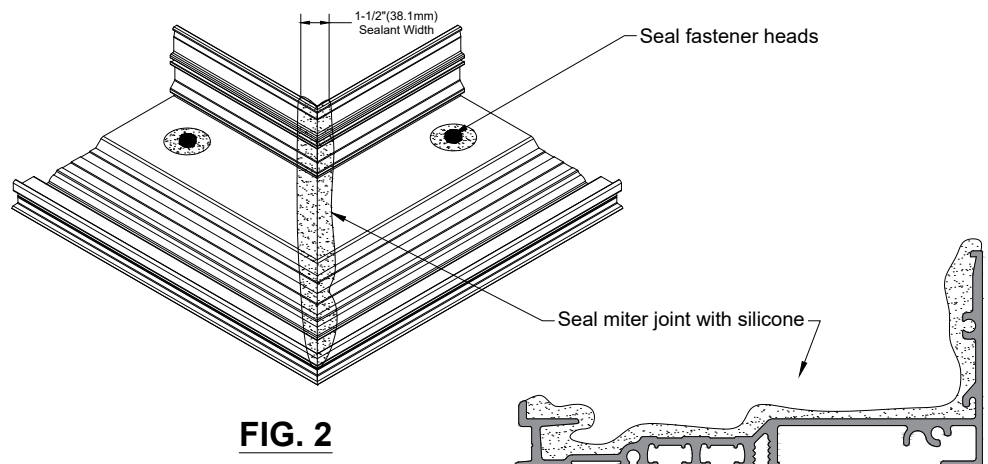

FIG. 2
- Apply sealant full length of mitered joint. See **Fig. 2**.